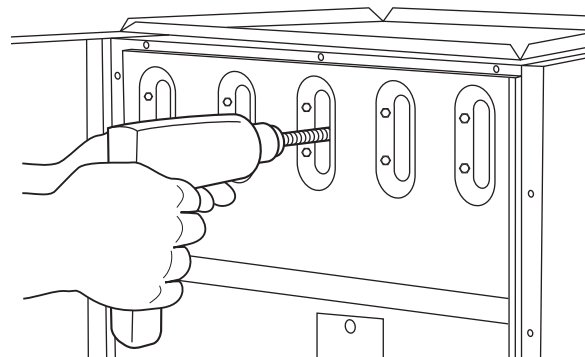

Fig. 51 – Cleaning Heat Exchanger Cell
- (2.) Insert brush end of cable into the outlet opening of cell and slowly rotate with drill. **DO NOT** force cable. Gradually insert cable into upper pass of cell, see Fig. 51.